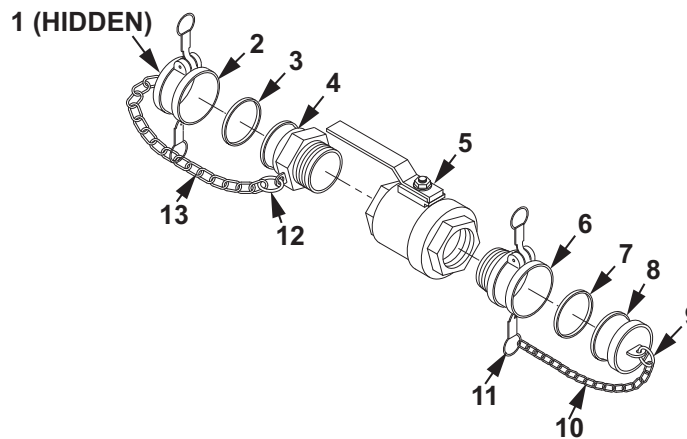

Figure 1. 2 In. Ball Valve Maintenance.
1. Install split ring (Figure 1, Item 11) onto chain (Figure 1, Item 10).
2. Install split ring (Figure 1, Item 9) onto chain (Figure 1, Item 10).
3. Install split ring (Figure 1, Item 11) onto female coupling half (Figure 1, Item 6).
4. Install split ring (Figure 1, Item 9) onto quick disconnect dust plug (Figure 1, Item 8).
5. Install split ring (Figure 1, Item 12) onto chain (Figure 1, Item 13).
6. Install split ring (Figure 1, Item 1) onto chain (Figure 1, Item 13).
7. Install split ring (Figure 1, Item 12) onto male coupling half (Figure 1, Item 4).
8. Install split ring (Figure 1, Item 1) onto quick disconnect dust cap (Figure 1, Item 2).
9. Apply sealing compound to external threads of female coupling half (Figure 1, Item 6) and male coupling half (Figure 1, Item 4).
10. Install female coupling half (Figure 1, Item 6) and male coupling half (Figure 1, Item 4) into 2 in. ball valve (Figure 1, Item 5).
11. Using an assistant, one strap wrench and one adjustable wrench, tighten female coupling half (Figure 1, Item 6) and male coupling half (Figure 1, Item 4).
12. Install new gasket (Figure 1, Item 7) and quick disconnect dust plug (Figure 1, Item 8) onto female coupling half (Figure 1, Item 6).
13. Install new gasket (Figure 1, Item 3) and quick disconnect dust cap (Figure 1, Item 2) onto male coupling half (Figure 1, Item 4).